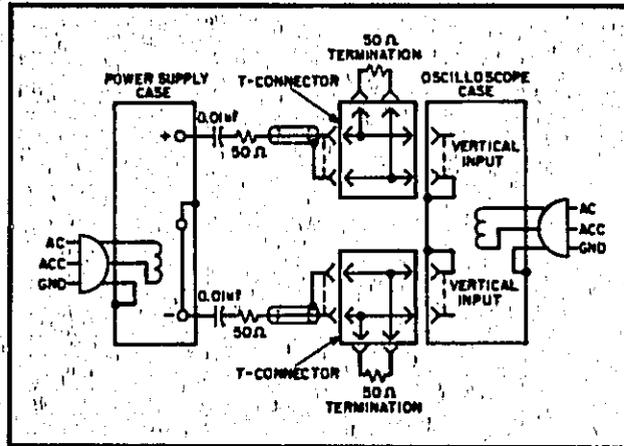

Figure 5-7. CV Noise Spike, Test Setup
- As shown in Figure 5-7, two coax cables, must be substituted for the shielded two-wire cable.
5-33 The circuit of Figure 5-7 can also be used for the normal measurement of low frequency ripple and noise; simply remove the four terminating re-
istors and the blocking capacitors and substitute a higher gain vertical plug-in in place of the wide-band plug-in required for spike measurements. Notice that with these changes, Figure 5-7 becomes a two-cable version of Figure 5-6C.